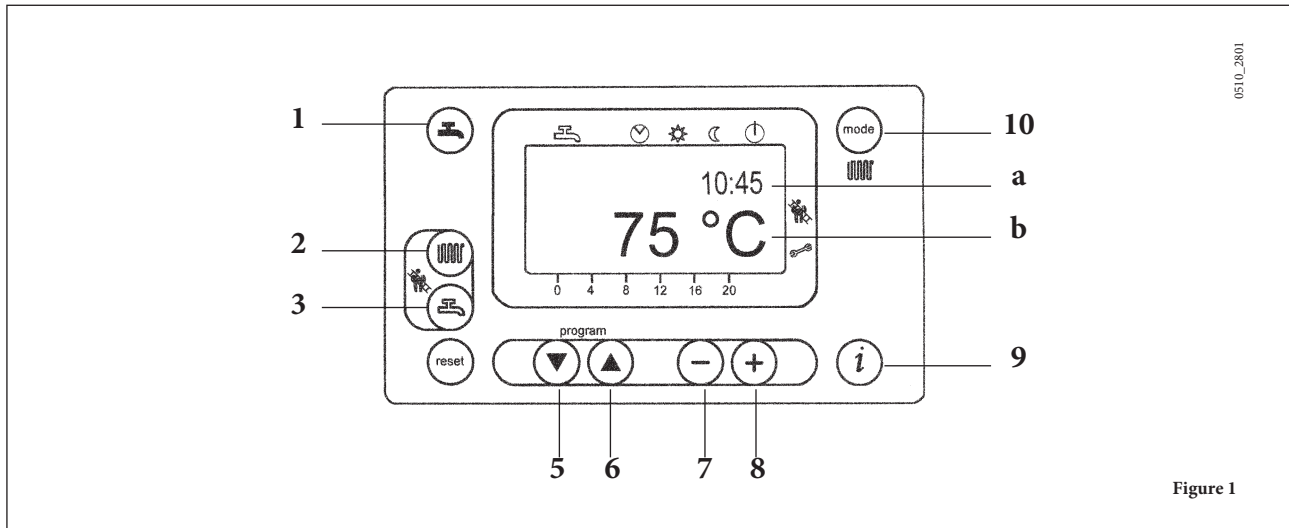
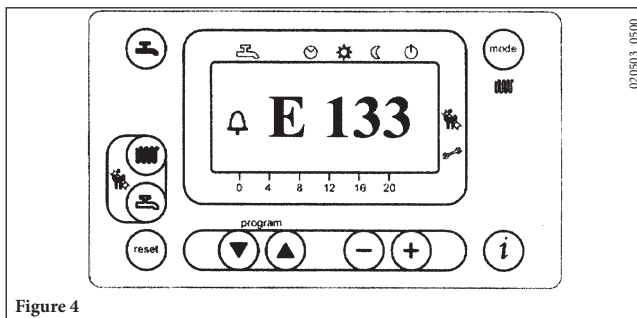

Figure 1
Figure 4
- Press mode (2- figure 1) to set the heating water temperature;
- press one of the two buttons mode (1 or 10 - figure 1) to save and return to the main menu.
NOTE – With the external probe connected, press mode (2 – figure 1) to shift the heating curve. Press $-$ $+$ to decrease or increase the ambient temperature of the room to heat.
- Press mode (3- figure 1) to set the maximum DHW water temperature;
If a fault develops, a signal code flashes on the display. The fault signals appear on the main display (figure 1 a) together with the symbol  (figure 4). To reset, press the reset button  for at least two seconds.